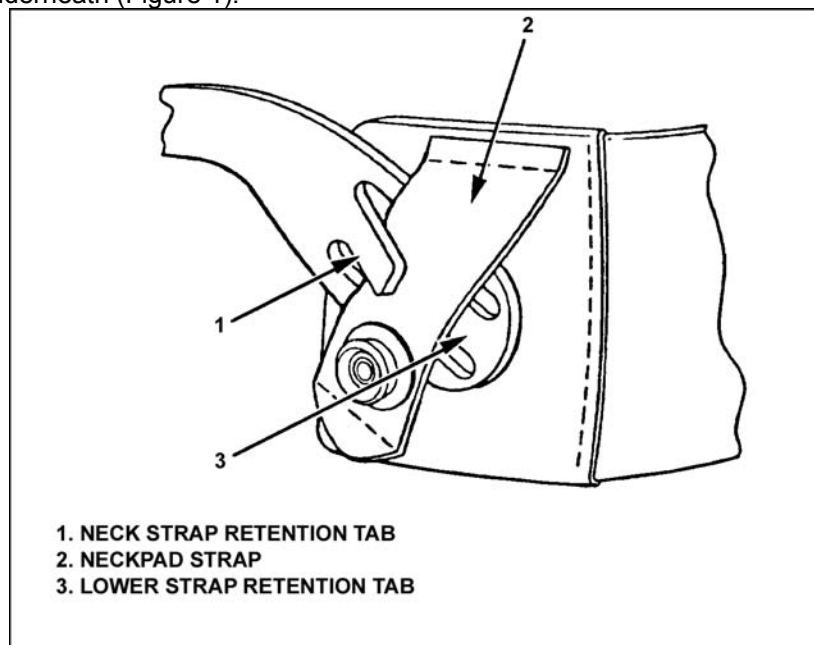

Figure 1. Reinstalling the neckpad.
- (1) Lift the upper headband strap retention tab. This allows you to insert the neckpad strap underneath (Figure 1).